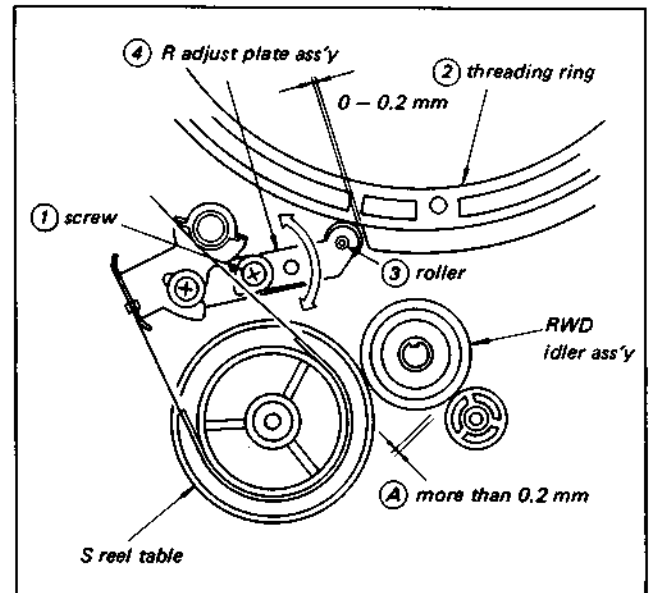
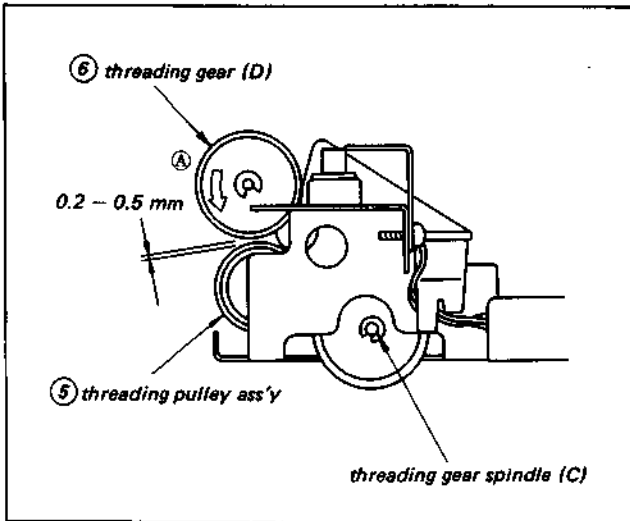

Fig. 3-17. Ring arm clearance adjustment (1)
Fig. 3-18. Ring arm clearance adjustment (2)
- 2) As shown in Fig. 3-17, loosen screw ① and adjust so that there is a space of 0–0.2 mm between the threading ring ② and the roller ③.
- 3) During step 2, by pushing the neck of R adjust plate assembly ④ in the direction of the arrow, the space between the threading pulley assembly ⑤ and the threading gear (D) ⑥ in Fig. 3-18 will be gently pushed in the direction of arrow A, and tighten screw ① until the space is 0.2–0.5 mm.
- 4) Set up the unthreading completion state and turn off the stand by switch. At this time, confirm that the space in section A of Fig. 3-17 is more than 0.2 mm. If there is no space, repeat the procedure from step 1.
- 5) Set up STOP mode again without a cassette. Confirm that the roller ③ in Fig. 3-17 drops into the threading ring ② cam and that the threading gear D ⑥ in Fig. 3-18 moves away from the threading pulley assembly ⑤.